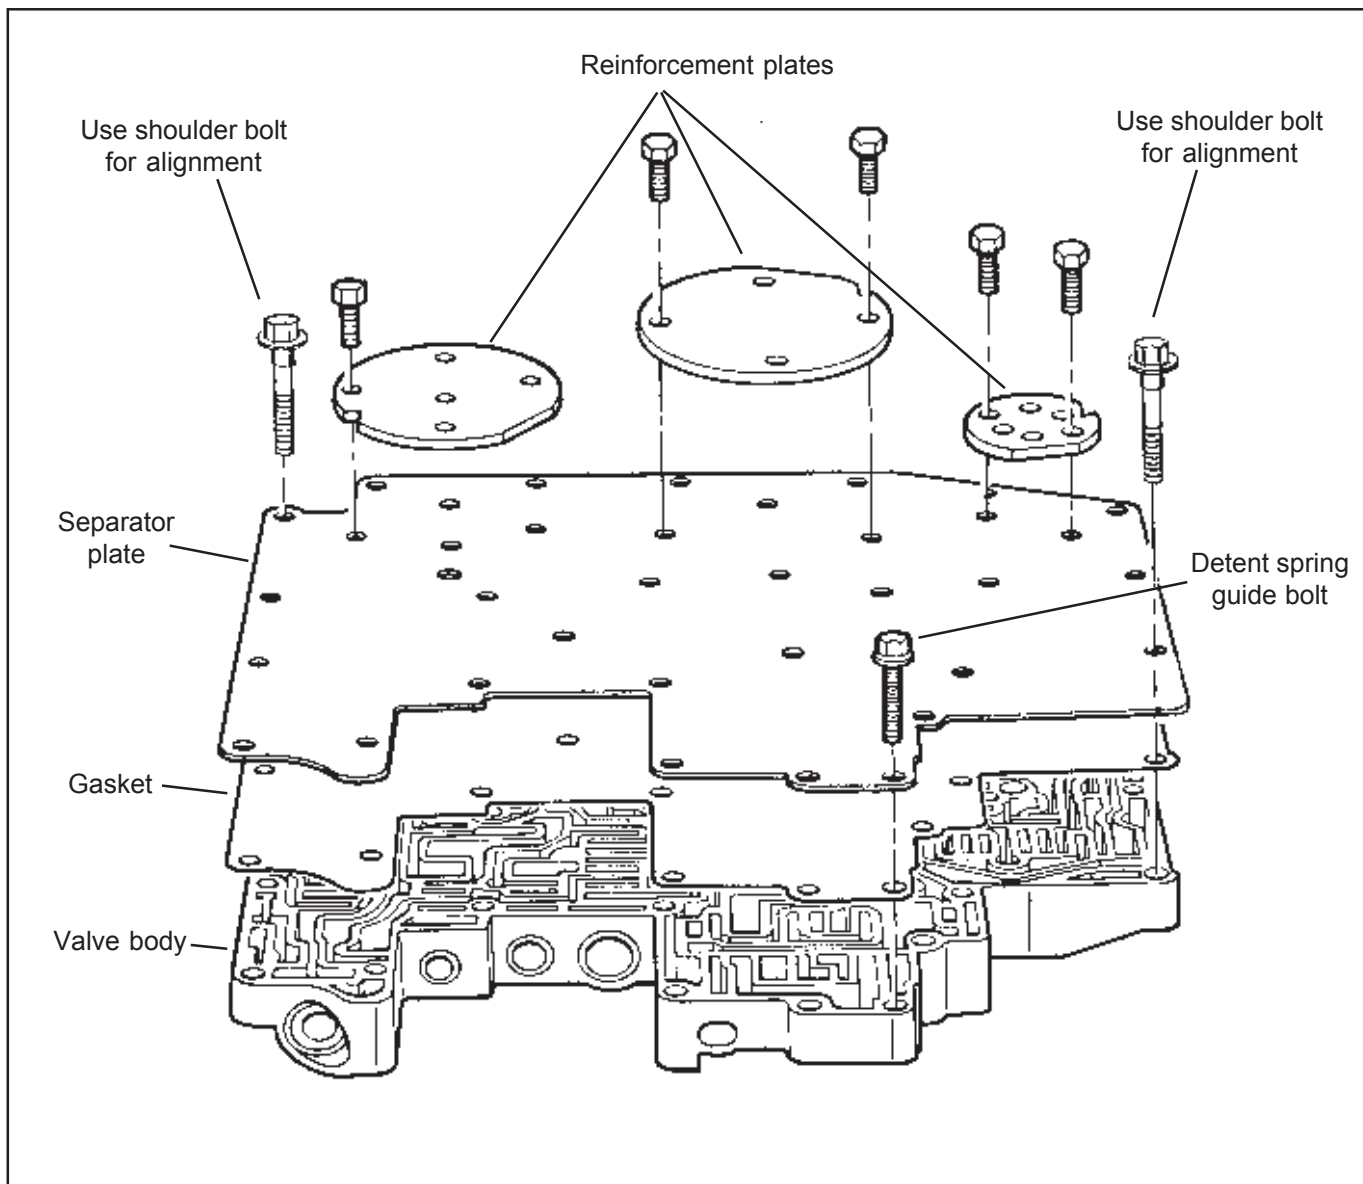
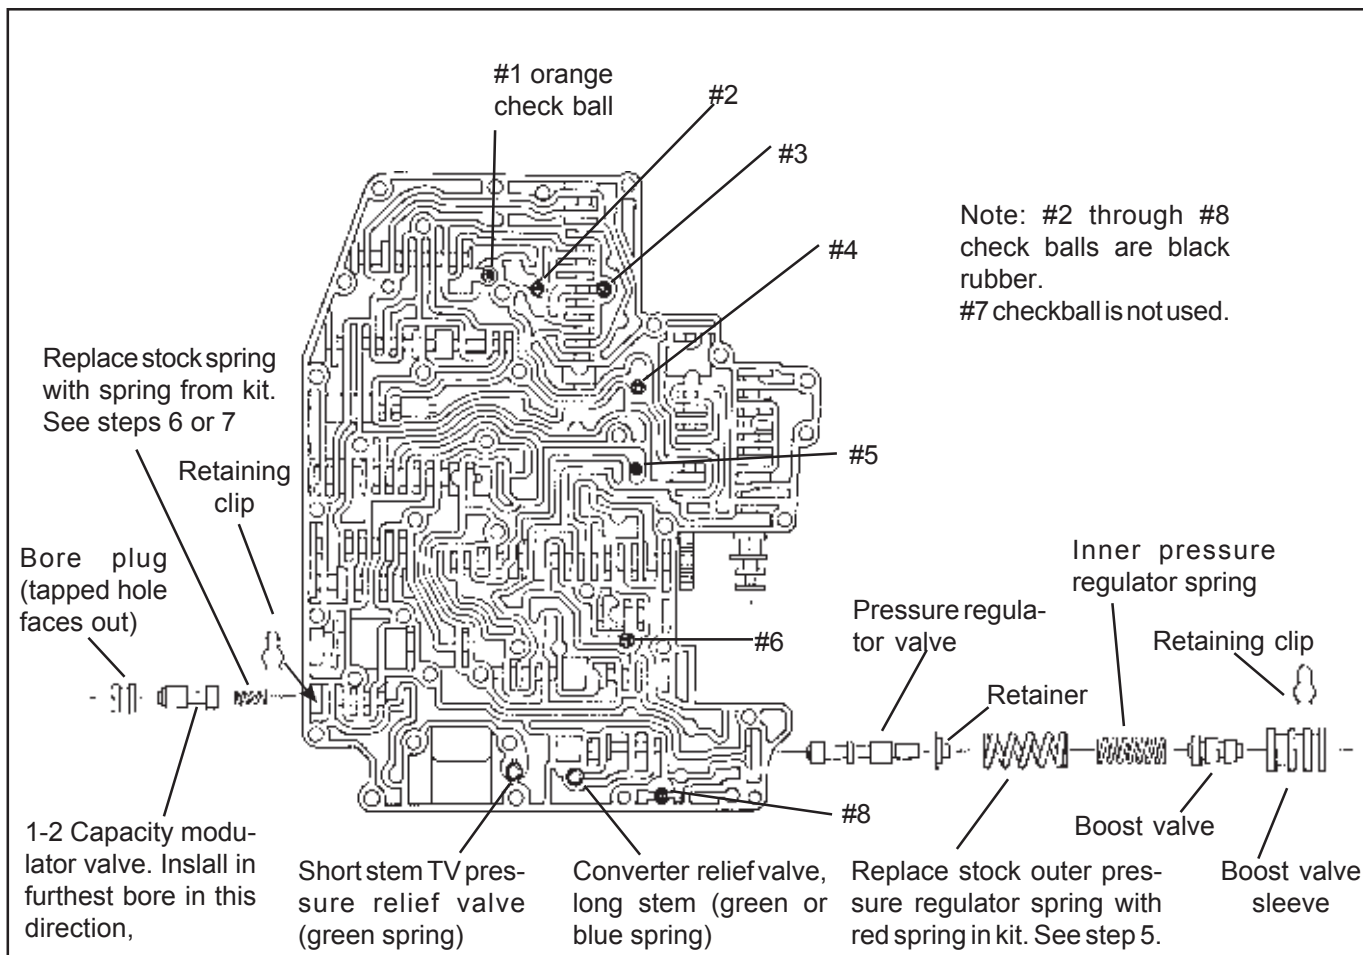

Figure 3
Figure 4
retain all replaced parts (separator plate, springs, etc.) for reference until after the installation is complete and the vehicle is satisfactorily road tested. **STEP 4.** Remove 12 bolts holding separator plate to valve body (See Fig 3). Remove (3) reinforcement plates and separator plate, (1) large (orange) and (6) small (black) check balls, and (2) relief valves with springs (See Fig. 4). NOTE: Early 1980 valve bodies may have (7) black check balls. Carefully remove any remaining gasket material from reinforcement plates and valve body surfaces. Make sure none of the gasket debris remains in the valve body channels to contaminate the valves. Rinse off valve body with clean solvent to remove any dirt or grit.
STEP 5. Heavy Duty and Street; Pressure regulator. Remove the retaining clip at the end of the pressure regulator bore (See Fig. 4) Use a screwdriver to hold the pressure regulator assembly in while removing the retaining clip. If the sleeves stick in the bore, lightly punch the sleeve with a small rod and a mallet allowing it to snap back out of the bore. Remove Sleeve with Boost Valve and the outermost pressure regulator spring. Replace the stock outer pressure regulator spring with the **RED** spring supplied in the kit.
STEP 6. Heavy Duty Only; 1-2 Capacity Modulator. Remove the spring clip at the end of the 1-2 Capacity Modulator bore (See Fig. 4). Remove the bore plug, 1-2 Capacity Modulator valve and spring from bore. On later model valve bodies use the M4x40 (4mm metric screw supplied in kit) in tapped hole to assist removing bore plug. Early valve bodies do not have a hole in the bore plug so you will have to pry the plug out with a small screw driver. Replace the stock spring with the **YELLOW** spring supplied in kit. Reassemble spring, valve and bore plug (tapped hole facing out) and install spring clip.
STEP 7. Street Only; 1-2 Capacity Modulator. Remove the spring clip at the end of the 1-2 Capacity Modulator bore (See Fig. 4). Remove the bore plug, 1-2 Capacity Modulator valve and spring from bore. On later model valve bodies screw the M4x10
STEP 11. Check ball placement (See Fig. 4) Place check balls in the valve body in the positions shown. Use a
STEP 14. Position separator plate gasket then separator plate on valve body. Align gasket and separator plate holes with those in valve body. Insert (2) long (1.56") valve body **shoulder** bolts through separator plate and valve body as illustrated in **Figure 3**. The **shoulder** bolts are required to maintain gasket and plate alignment during assembly. The shoulder bolts must be installed in the holes indicated for proper alignment. Install (3) reinforcing plates with (11) short bolts tightening the bolts finger tight. Install (1) M6x30mm (1.16") detent spring guide bolt. (**See Fig. 3**)